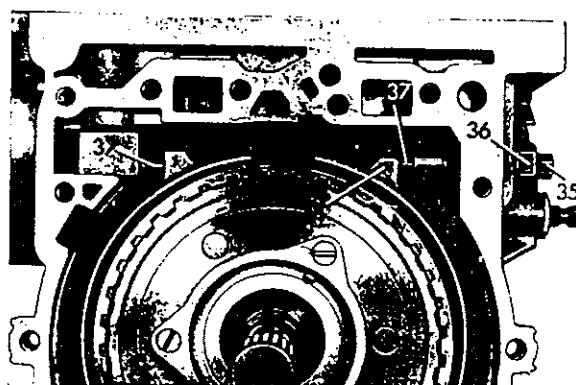

Fig. 36
14 Install brake band B 3 with radial grooved lining (strong steel band) (38) into transmission case from the front, insert both pressure pins (37) into brake band B 3 (38) and turn down adjustment screw (35) coated with sealing compound into transmission case until the brake band is held **Fig. 36**